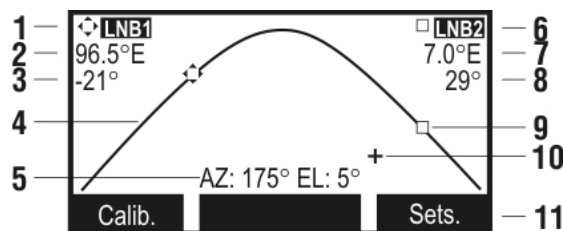
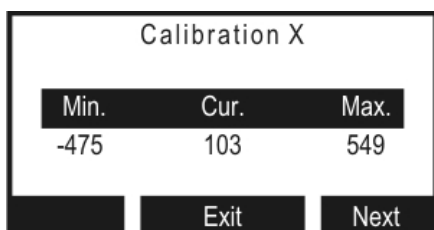

Figure 4.14.1
Figure 4.14.4
The  icon in the additional measurements menu corresponds to this mode (figure 4.3.2). You will see this icon only if your Analyzer is equipped with built-in magnetic compass. This mode allows determining the direction to a satellite. The main screen of this mode is represented in figure 4.14.1.
- a) calibration along X axis (figure 4.14.4);
During each step of calibration smoothly turn the Analyzer in all directions to find the minimum (**Min.** in figure 4.14.4) and the maximum (**Max.** in figure 4.14.4) values of projection of the Earth magnetic field lines along each axis. The current value of the projection is shown under **Cur.** Switching to the following step of the calibration is performed by «**F3**» (**Next**) key. Use «**F3**» (**Save**) key in Z axis calibration to save the changes, exit calibration, and open the main screen of the magnetic compass (figure 4.14.1). Use «**↑**» or «**F2**» to exit the calibration mode.
To check if the calibration was performed correctly slowly turn the Analyzer in horizontal plane watching if the azimuth value changes smoothly (index 5 in figure 4.14.1) from 0° to 360°. If the value changes abruptly, repeat the calibration or download the factory calibration. To achieve higher accuracy of the compass performance we recommend performing measurements after setting the measurement mode according to instructions in section 2.4.